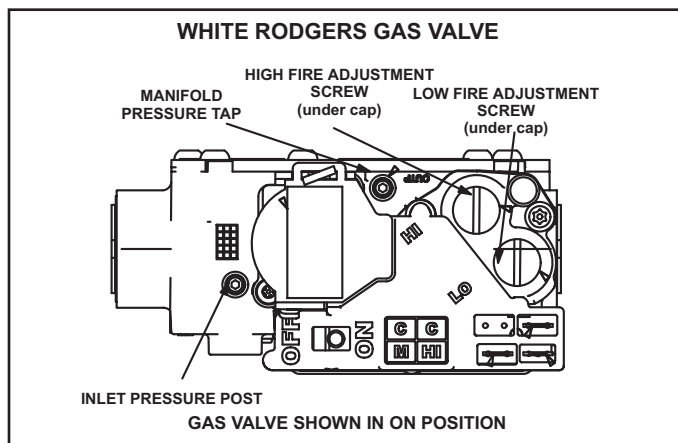

FIGURE 17
- 6 - Turn switch on gas valve to OFF. Do not force. See FIGURE 17.
- 8 - Move switch on gas valve to ON. Do not force. See FIGURE 17.
An inlet post located on the gas valve provides access to the supply pressure. See FIGURE 17. Back out the 3/32 hex screw one turn, connect a piece of 5/16 tubing and connect to a manometer to measure supply pressure. See TABLE 25 for supply line pressure.
- 1 - Connect test gauge to manifold pressure tap (FIGURE 17) on gas valve.
- 4 - If necessary, make adjustments. FIGURE 17 shows location of high fire and low fire adjustment screw.